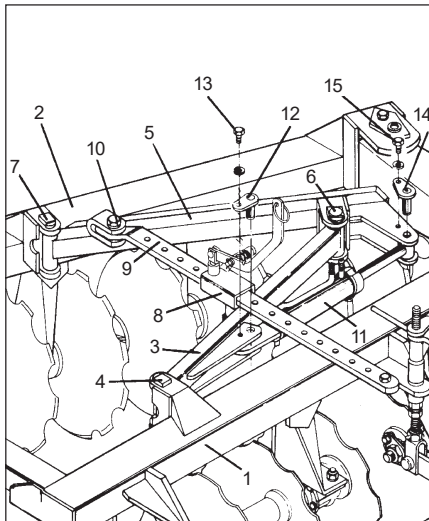

FIGURE 10
- Place the piston 11, so that the base of the cylinder is placed in front stabilizer bar, item 3, through the pin, item 12, locking it with bolt, item 13, and piston handle fixed to the rear stabilizer bar, item 5 through the pin, item 14, locking with bolt, item 15, as shown in **Figure 10**.